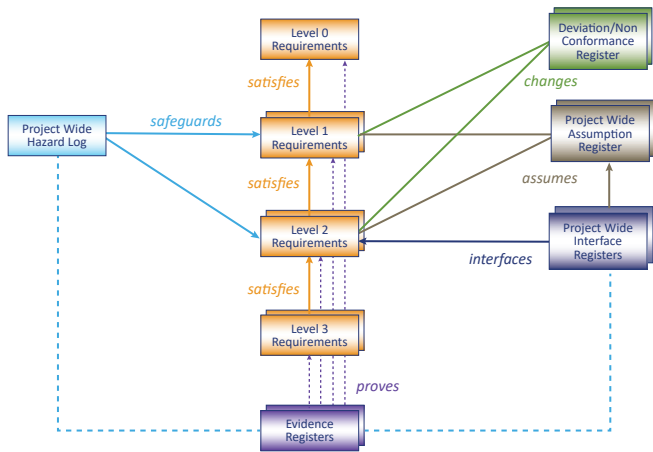
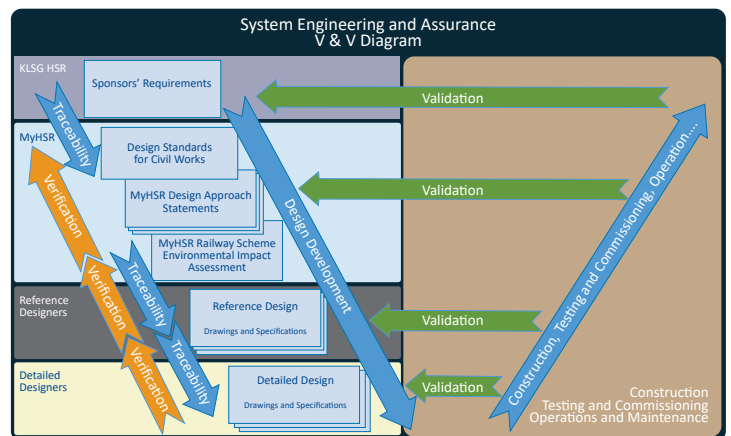

Figure 1: Typical Data Model
Figure 2: MyHSR Systems Engineering and Assurance 'V' model (courtesy of MyHSR)
This has to be set up correctly using a data schema along the lines of Figure 1 showing the traceability pathways. Almost all requirement management tools can display these relationships as navigation links so that a user can quickly move up and down the links. The better ones such as DOORS® Next Generation (NG) may also provide overall graphical representations and drag and drop functionality to create and remove these links.
Every requirement was imported into the appropriate levels (Figure 2) using the excellent import facility of DOORS® NG and attributes allocated. Project wide Hazard logs, Assumptions and Departure (commonly known as deviation or non-conformance) Registers were also included and the status values controlled by workflows. Traceability relationships were established between the registers in a similar manner to Figure 1. This allowed impact views to be created so that every change in every register could be assessed before implementation. The MyHSR Project dashboard consisted of a series of widgets, including shortcut links to specific modules and the project metrics. There was also a personal dashboard for each user that could be tailored for their own specific 'to do' list.